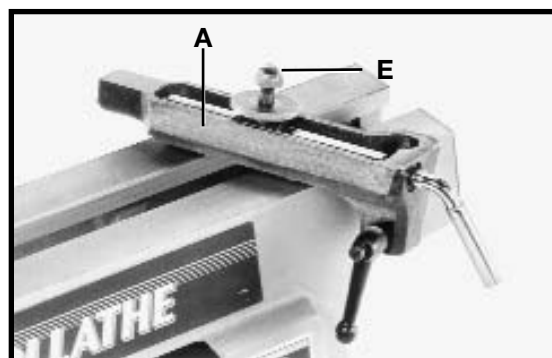

Fig. 23
- The clamping device on the tool rest base can be adjusted by turning the tool rest support (A) Fig. 23 over and adjusting nut (E) clockwise to tighten or counterclockwise to loosen the clamping action.